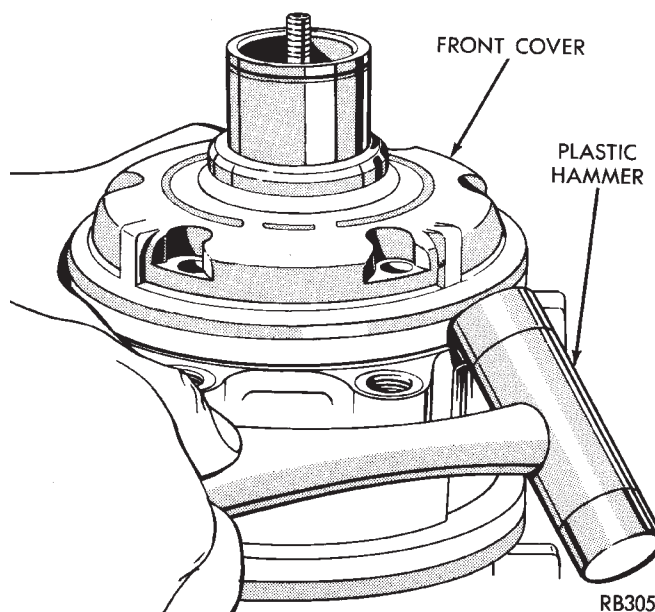

Fig. 2 Removing Front Cover
(5) Remove front cover by tapping on the outside diameter of the cover with a plastic hammer (Fig. 2).